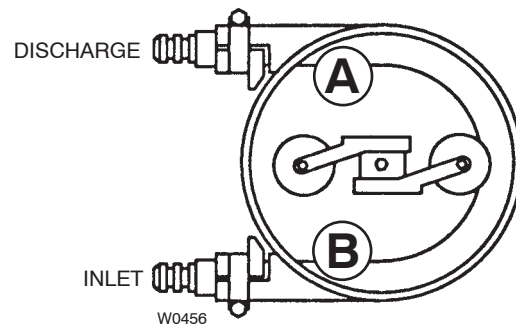

Figure 3
- See Figure 3. If the hose fails in area A, this may occur from operating the pump at a discharge pressure higher than the hose is rated for, or with a closed discharge line. If the hose fails in area B, this may occur from operating the pump under a higher vacuum or higher inlet pressure than the hose is rated for, or with a closed suction line.